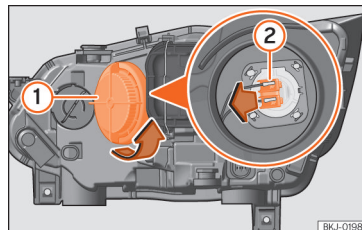

Fig. 52 In the engine compartment: main beam headlight bulb.
- Turn the cover ① anti-clockwise and take it out >>> Fig. 52.
- Remove the bulb connector ② by pulling it outwards.
- Fit the bulb connector ②.
- Fit cover ①, turning it towards the right.